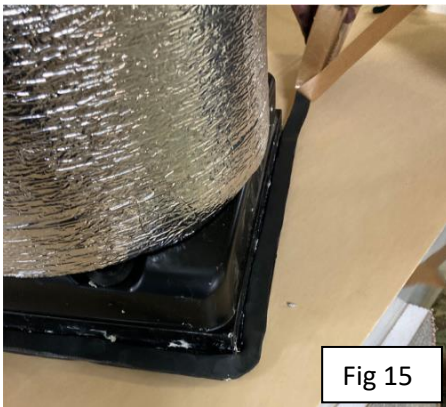

Fig 15
- b. Now apply the 3/4" wide black butyl sealant provided in the parts kit to the flange of the water heater shown in Figure 15. Then install the water heater into the adapter assembly plate.